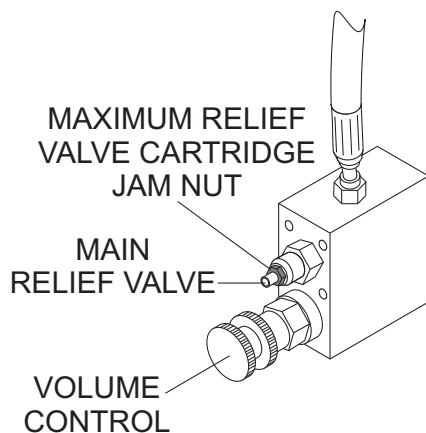
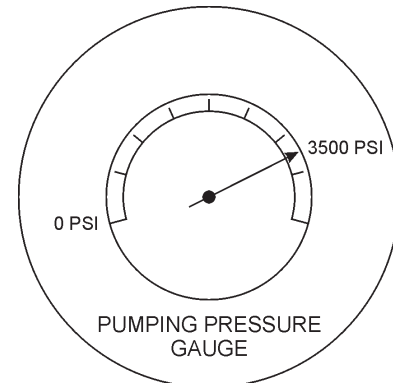

Figure 45. Hydraulic Drive Pump Manifold
Figure 46. Pumping Pressure Gauge
4. Start the engine and loosen the jam nut located on the **maximum relief valve cartridge** (Figure 45).
5. Run the engine at maximum RPM (2550) and turn the volume control knob **counter-clockwise** to maximum volume position (Figure 45).
6. On the electrical control panel, turn the **pump control switch** (Figure 22) and the **test switch** (Figure 31) to the “ON” position. Using an allen wrench, adjust the **main relief valve** (Figure 45) to **3500 PSI**. The reading can be taken from the **pumping pressure gauge** (Figure 46).